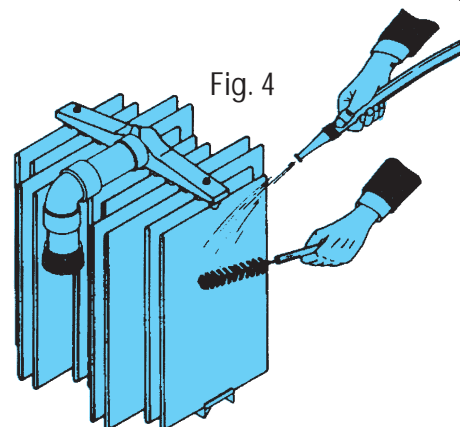

Fig. 4
4. Hose down element assembly and clean with bottle brush (Figures 4). Use detergent solution or filter cleanser available from a pool service store.